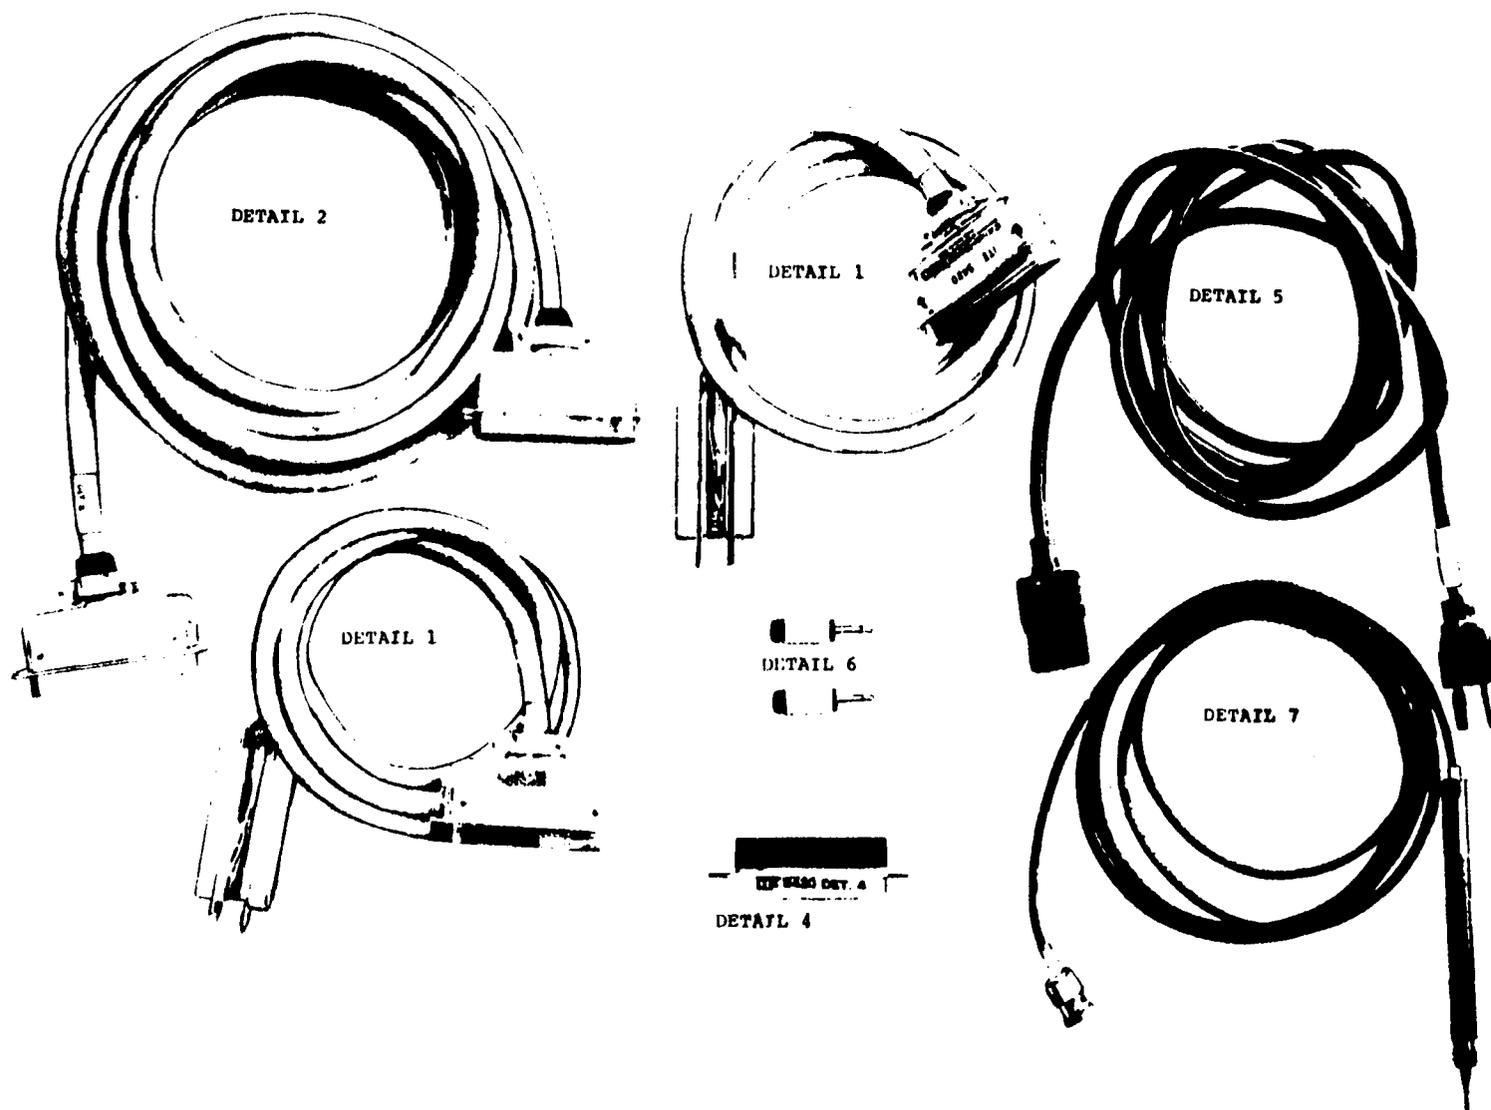

FIG. 2 ITE-5421 DETAILS
- 2.26 ITE-5421 Details 1-7 (Figure 2) are located in the compartment on the right side of the ITE-5421 Carrying Case.